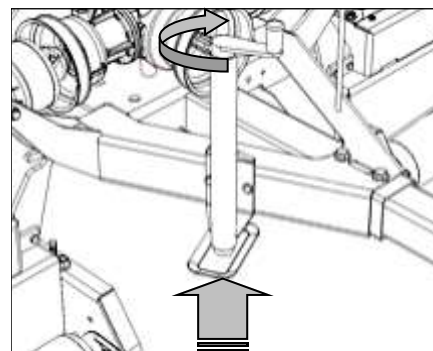

Fig. 24
8. Wind the jack up as far as it will go (Fig. 24). This will prevent it from lowering itself and damaging the turf as the mower operates.